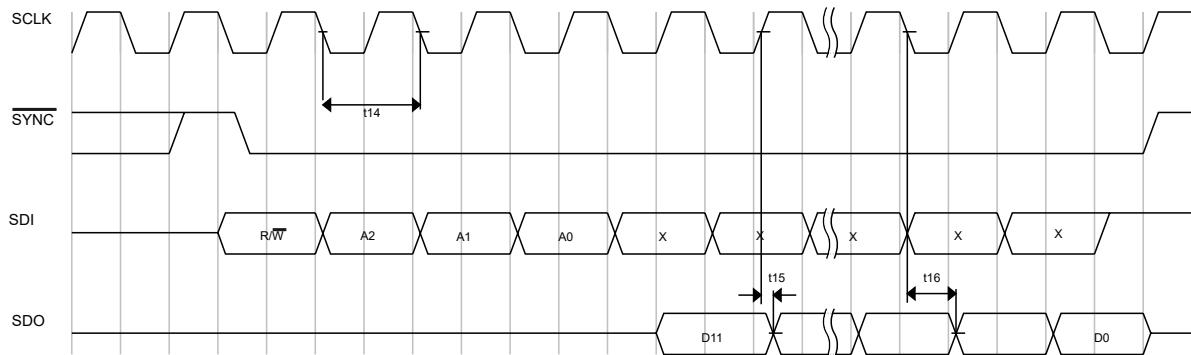
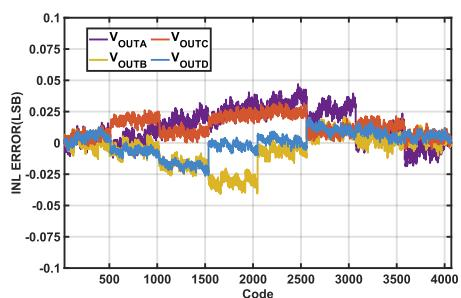
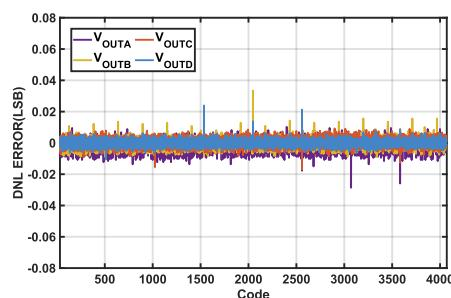

Figure 2. Read Timing Diagram
Figure 3. Typical INL
Figure 4. Typical DNL
(1) Guaranteed by characterization; not production tested.
(2) All input signals are specified with $tR = tF = 5$ ns (10% to 90% of DVCC) and timed from a voltage level of 1.2 V.
(3) See Figure 2, Figure 3, and Figure 4.
(4) CL SDO = capacitive load on SDO output.